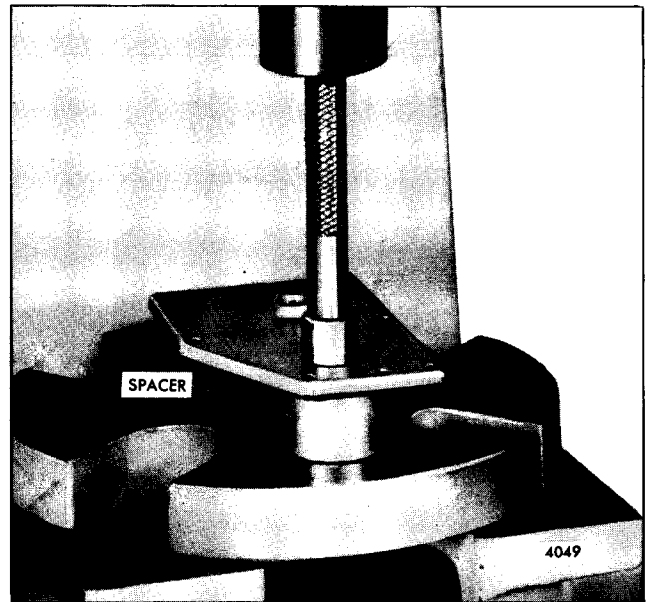

Fig. 5 - Removing Governor Cover Bearing using Tool J 21967-01
10. If the bearings are to be removed, place the governor cover on an arbor press and press them out with bearing remover J 21967-01 (Fig. 5).